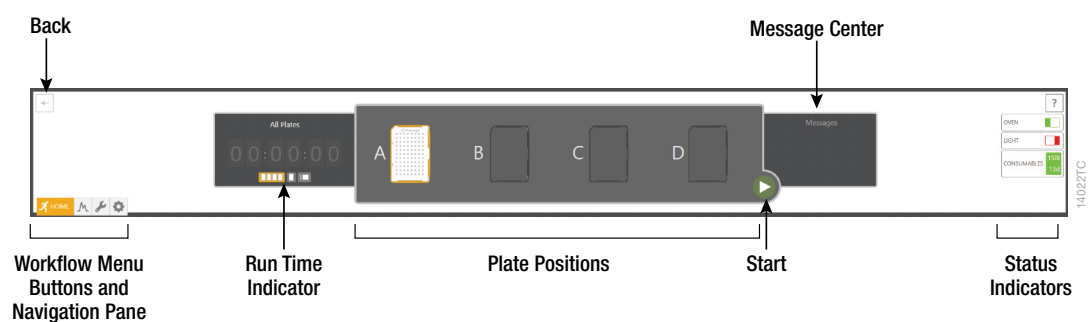
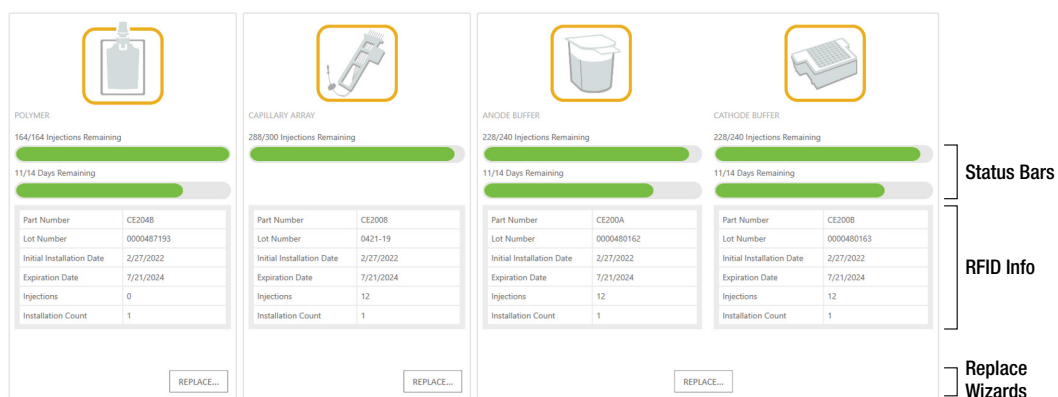

Figure 8. Header.
Figure 9. 'Consumables' screen.
Open the Spectrum Control Software (SCS). The 'Home' screen appears upon launch (Figure 7), providing access to four workflow menus (Home, Review Plates, Maintenance and Settings; see Figure 8) and status indicators. The screen is divided into three sections: Header, Task Pane and Status Bar.
The Header (Figure 8) is fixed and remains available to the user throughout all navigation processes. This area contains Status Indicators, Message Center, Start Button, Run Time Indicator and Workflow Menu. The Header also shows the status of the plate positions within the Plate Drawer.
Before starting a run, ensure all consumables are installed and in sufficient supply. For best results, use unexpired reagents that are within the recommended use range. Refer to the 'Consumables' screen (Figure 9) to determine if any consumables need to be replaced. To access the 'Consumables' screen, select the Consumables status indicator in the Header on the SCS screen (Figure 8). The 'Consumables' screen (Figure 9) displays information for the four RFID-tagged consumables on the instrument: Polymer, Capillary Array and Anode and Cathode Buffers.
Select **Oven Heater Indicator** in the Header (Figure 8) to start preheating the oven to 60°C. The oven temperature will be displayed in the status bar at the bottom of the screen and the indicator will change from red to green when the oven preheating is complete.
3. Confirm the drawer handle light is illuminated, indicating that the drawer is unlocked and ready for plate loading. Alternatively, check the Message Center to verify that the drawer is unlocked. The Drawer Status indicator is in the Message Center located in the Header (Figure 8).